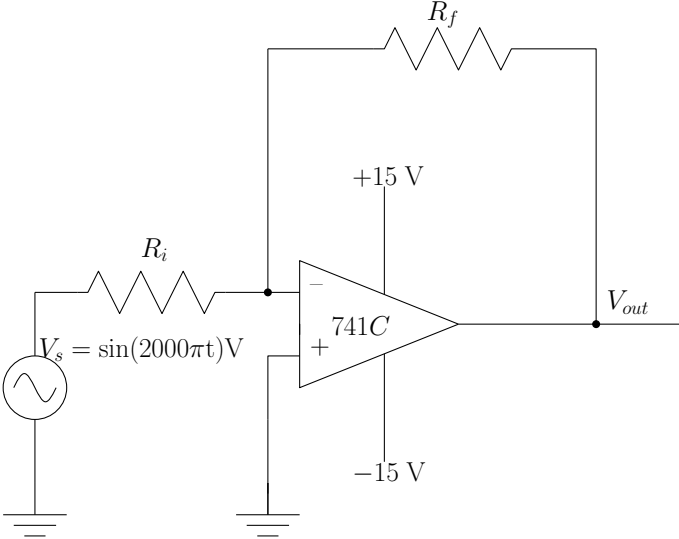

Figure 5.4: Basic Inverting Amplifier.
1. Using information from the background section, formulate an expression for the closed-loop gain of the inverting amplifier in Figure 5.4.
2. Now let's investigate an *inverting* amplifier. Assemble the circuit shown in Figure 5.4 using $R_f = 10\text{ k}\Omega$ and $R_i = 1.0\text{ k}\Omega$. Include a picture of your circuit in your lab report. [LR 5]